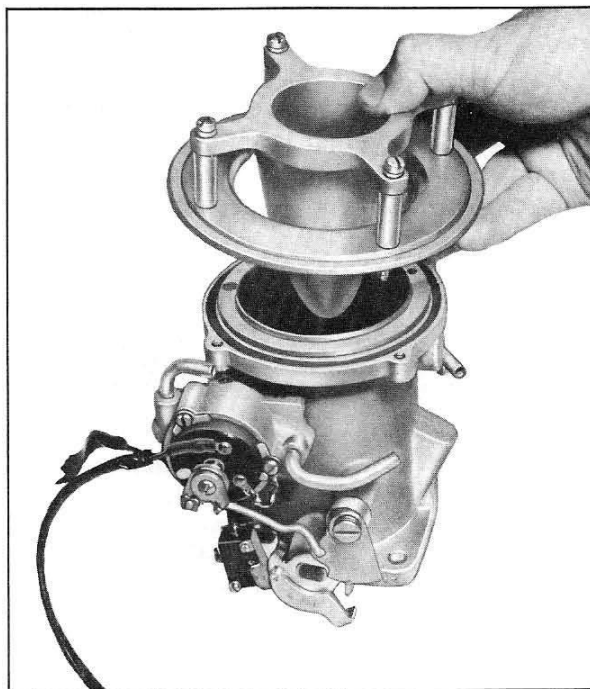

Fig. 29 Installing Diffuser Cone and Venturi Ring
b. Place venturi ring on screws and spacers as shown in Fig. 29.